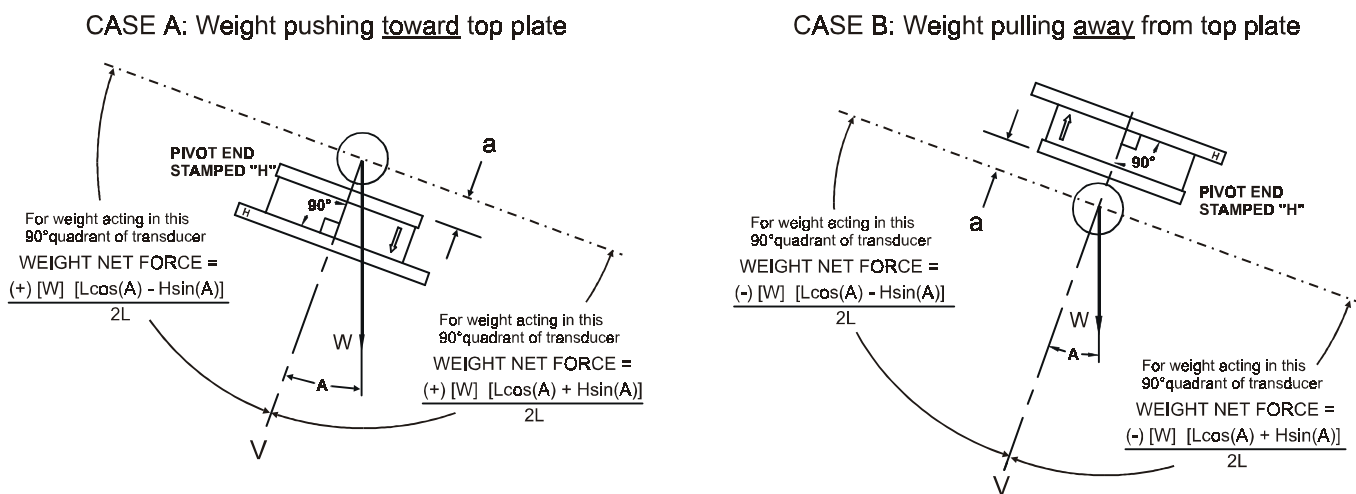

Figure 5 - FORMULAS FOR NET FORCE FROM ROLL WEIGHT
To select the correct load rating for each model UPBV transducer (to be used in a pair), look at Figures 5 and 6. You will need to calculate Net Force from Roll Weight and Net Force from Tension being sure to maintain their correct algebraic sign (+,-). The sum of these net force components equals the Total Net Force used to select the correct load rating.
- Refer to the Diagram 1 (Figure 5) formulas for Net Force from roll weight. Determine (as it applies to your situation) whether the roll weight will be pushing toward or pulling from the top plate, and whether the direction of the weight from the center of the roll is pointed in the 90° quadrant on the left or the right of line V. Again, whether the pivot end (marked “H”) is to the left or right effects sensitivity.